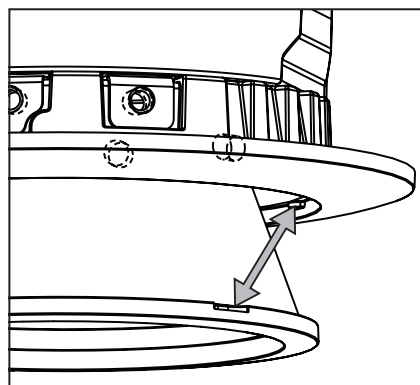

Figure 18
**Step 5.** Press the baffle or reflector back into the fixture. Note that the baffle has depressions in it that must align with the tabs on the trim ring (Fig. 18).